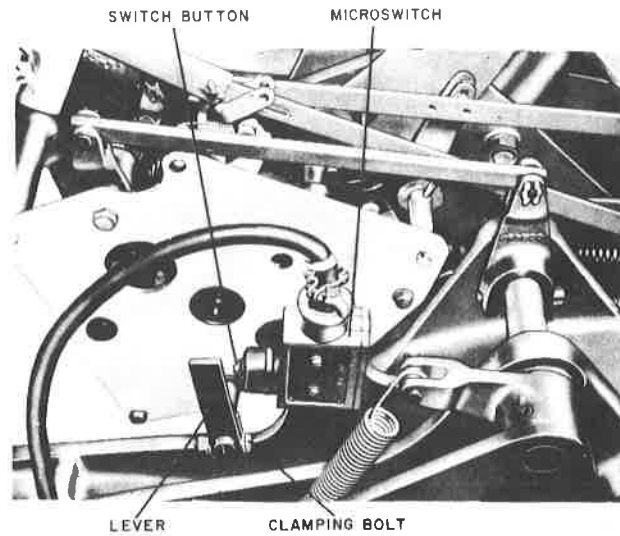

Figure 98. First and Second Ball Light Microswitch Adjustment
46. FIRST AND SECOND BALL LIGHT MICROSWITCH ADJUSTMENT. (FIGURE 98)